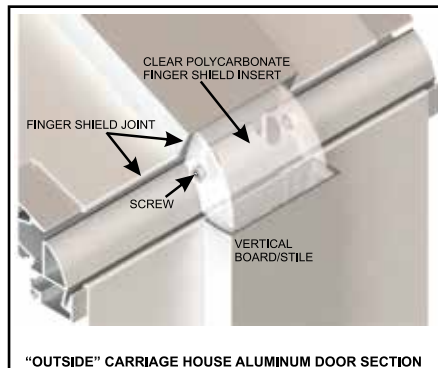

FIGURE 2
3. Use reasonable care in fitting/stacking each Carriage House Door section over the clear polycarbonate finger shield inserts that are screwed inside the vertical board/stile designs. See FIGURE 2.